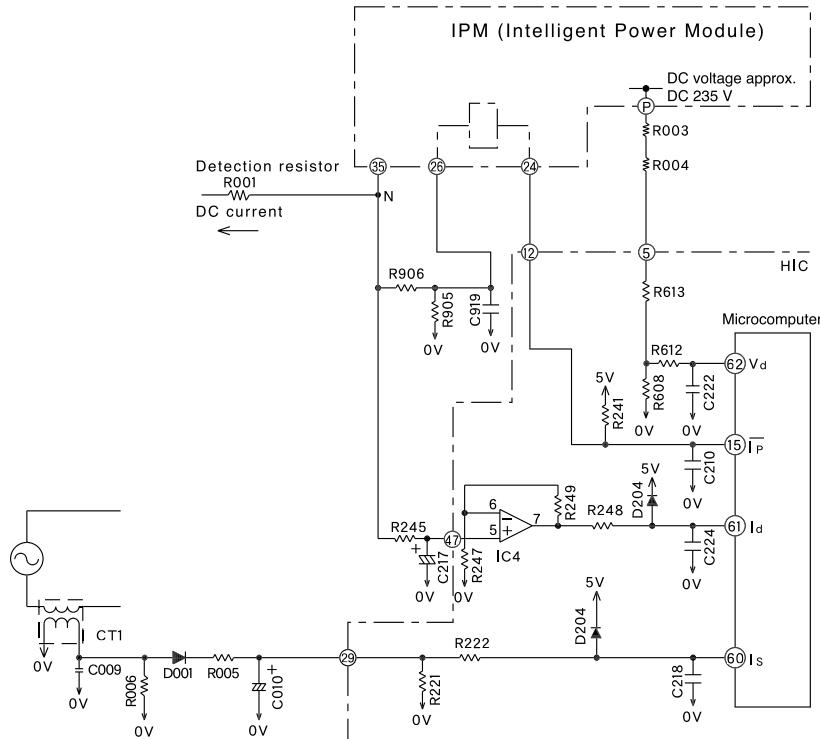

Fig. 6-5
Fig. 6-5. The filter consisting of R245 and C217 removes high harmonic frequencies from the voltage generated by the current flowing to Detection resistor; R245 and C217 average the voltage. This voltage is then input to IC4 pin ⑤ and supplied to microcomputer pin ⑥. The microcomputer compares this input with the set value, and if the input exceeds the set value, it enters overload control status.